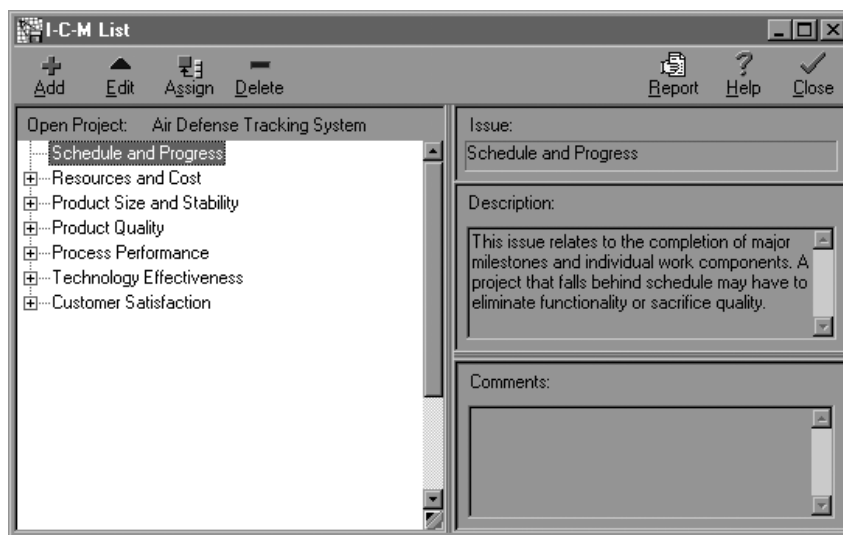

Figure 3. The I-C-M list initially displays seven suggested project issues. You can tailor the default list and or create an entirely new one.
**Step 1:** Tailor the issue list. Click the I-C-M button on the main toolbar. The I-C-M window, shown in Figure 3, opens and reveals seven default issues. In this brief example, we will create a measure for Schedule and Progress. Therefore, we will delete the other issues.